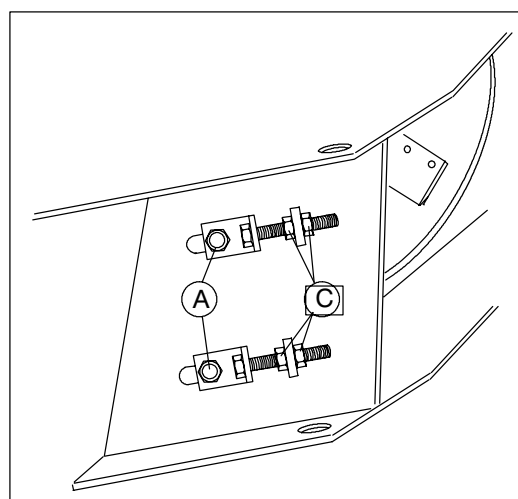

Fig. 25. Vertical anvil fastening and adjustment
2. Turn the disk so that a knife and the anvil are aligned. Place a feeler gauge between the knife and anvil. Adjust the vertical anvil clearance with the adjusting nuts (M12) (C, Fig. 25.) to 1.2–1.5 mm (0.05–0.06").
3. Tighten the adjusting nuts (C) and anvil fastening bolts (A).
5. Tighten the fastening bolt (B).